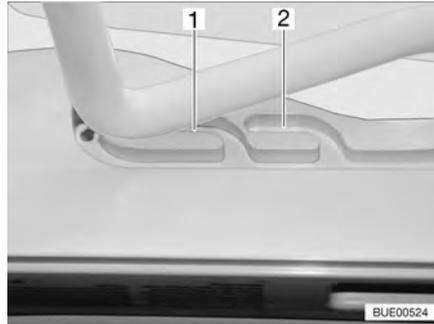
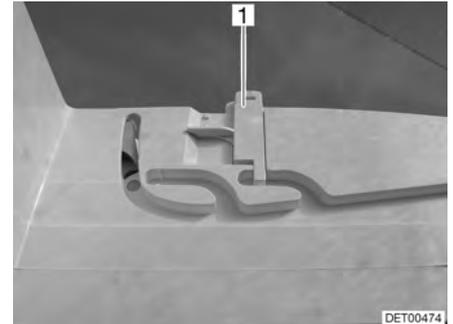

Fig. 75 Heki skylight in ventilation position
Fig. 76 Ventilation position locking mechanism
The Heki skylight can be put in two ventilation positions: Bad weather position (Fig. 75,1) and central position (Fig. 75,2). Depending on the model, the skylight can be locked in the central position with the latch (Fig. 76,1).
- Push the bar slightly upwards and into the selected guide (Fig. 75,1 or 2) and lock if necessary.